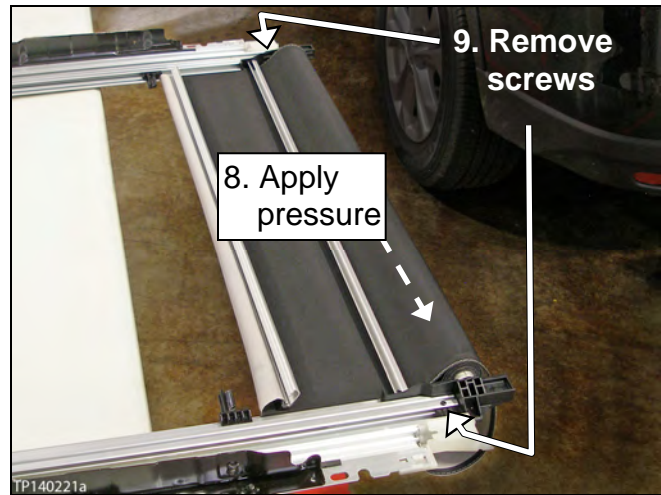

Figure 5
10. Remove the two (2) T10 TORX® screws where shown in Figure 5.